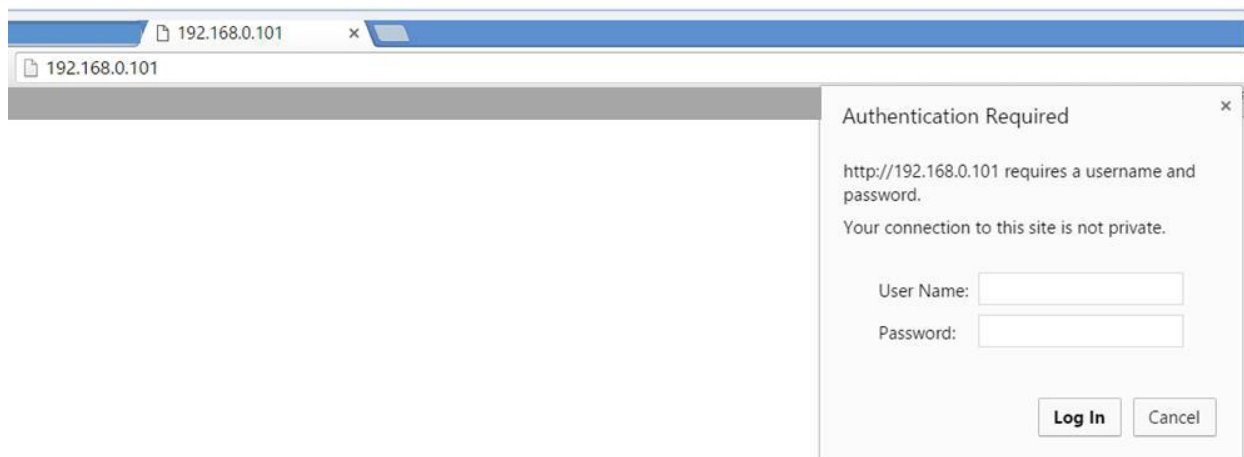

Figure 19 Rear projector IP address
g. Type “http://192.168.0.101” as below Figure 19.